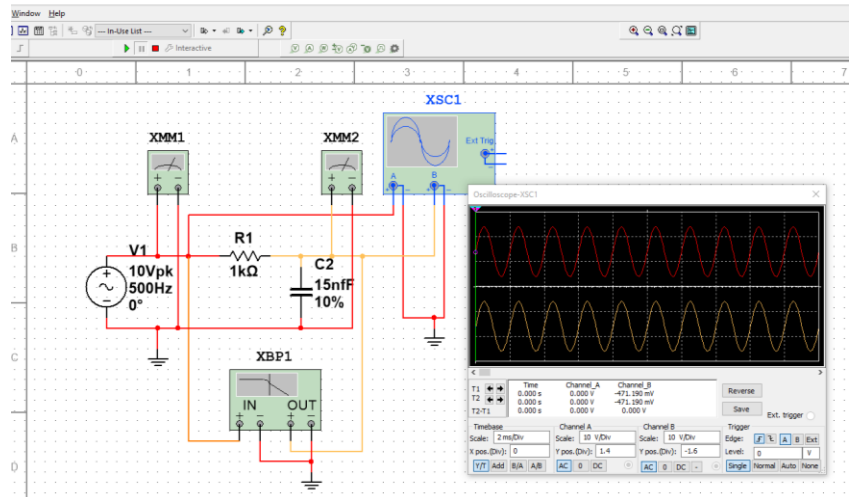

Figure 6: Multisim Layout of My RC Filter Circuit
- Figure 6 shows my RC test setup in the simulator.